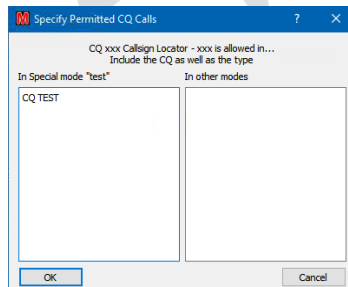

Figure 65 – Configure CQ auto responses
- **“Config CQ”**: Initiates the ‘Configure CQ’ dialogue (Figure 65) to define which CQ calls will result in an auto-response in both (Con)test and non-(Con)test modes so that in a contest there is no automatic response to non-contest calls and vice versa.